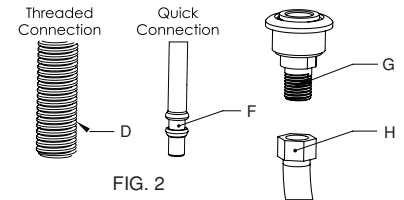
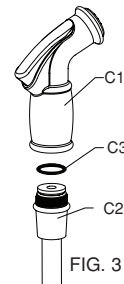

FIG. 2
FIG. 3
3. Pass new Hose Guide (A) through top of sink and secure using Nut (B) from underside.
4. Unscrew Spray Head Nut (C2) from Spray Head (C1). Press O-Ring (C3) into Spray Head (Fig. 3). Make sure that the O-Ring is fully seated in the base of the Spray Head. Screw the Spray Head Nut in to Spray Head.
5. Pass new Spray Hose (C) through Hose Guide (A) from the top of the sink.
6. Wrap threaded end of Quick Connect Adapter (G) with Thread Seal Tape, minimum 4 turns. Screw end of hose (H) on to Quick Connect Adapter. Secure using pliers.
7. Determine connection type, either threaded connection (D) or quick connection (F). If faucet uses a threaded connection (D), wrap threaded connection (D) with Thread Seal Tape, minimum of 4 turns. Install Nipple (E) on to threaded connection (D). Secure using pliers. If faucet uses a quick connection (F) (Fig. 2), Nipple (E) is not needed; skip to Step 8.
8. To install Quick Connect Adapter (G), pull back on the collar of the Quick Connect Adapter, push on to Nipple (E) or quick connection (F). Release the collar. Lightly pull on the hose to ensure the fitting is fully seated.